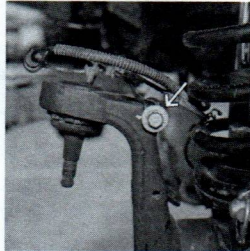

Figure 9. ABS Cable Tab Bolt
12. Remove the 13mm bolt that secures the ABS sensor cable. See Figure 9. Hang the cable with the brake caliper, away from the work area.